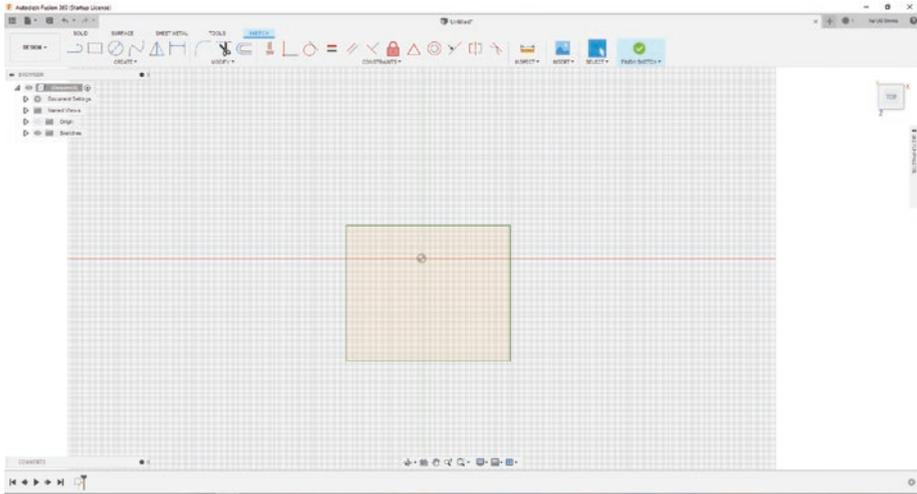

Figure 3-38. *SVG is ready to be extruded*
7. You should now see your SVG file on the plane you chose earlier. See Figure 3-38.